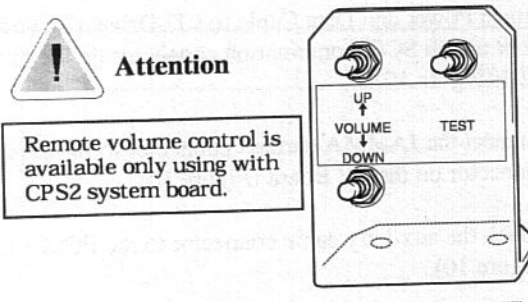

Figure 7: Test switch/Volume Bracket
23. Your cabinet may already equipped with test switch. An optional test switch bracket (see Figure 7) is available through your local CAPCOM distributor (part number 03-0050). When installing, the test switch bracket should be mounted inside the coin door and on top of the cash box for easy access. (See Table 3: for wiring detail)